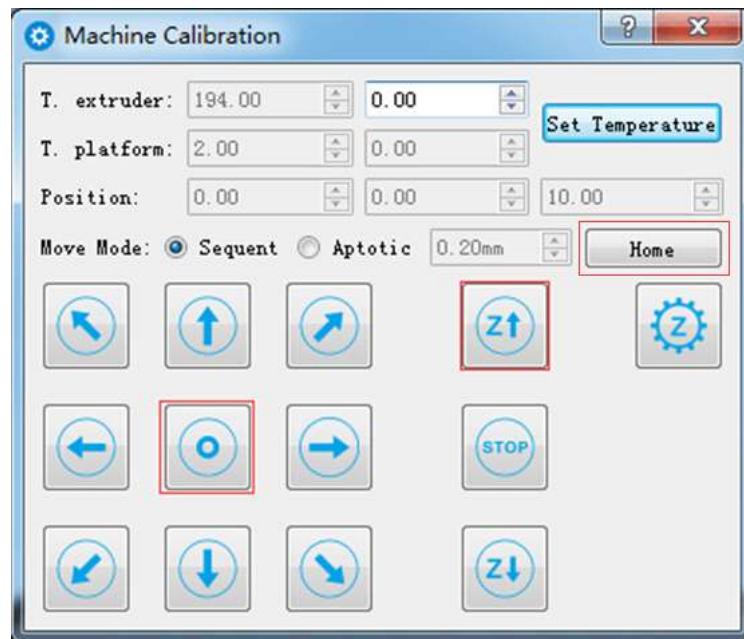

Figure 6.4.2
2. Click "Machine Calibration", see figure 6.4.2.